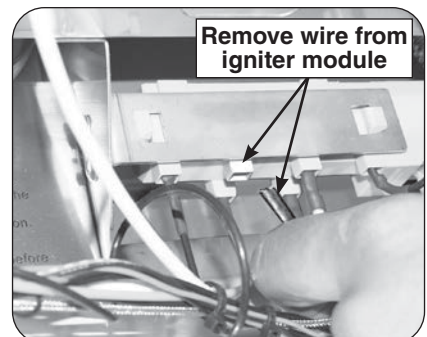

Fig. 2-5 Remove old igniter wire
2. Attach the other end of the new igniter wire (the insulated end) to any male connector on the back of the igniter module (reference Fig. 2-5 on previous page).